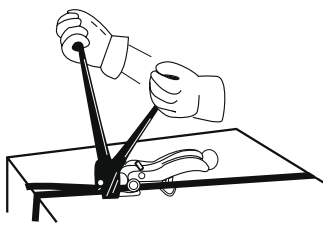

Figure 1
1. Fully open the sealer handles and center the open jaws on the seal. (See Figure 1)